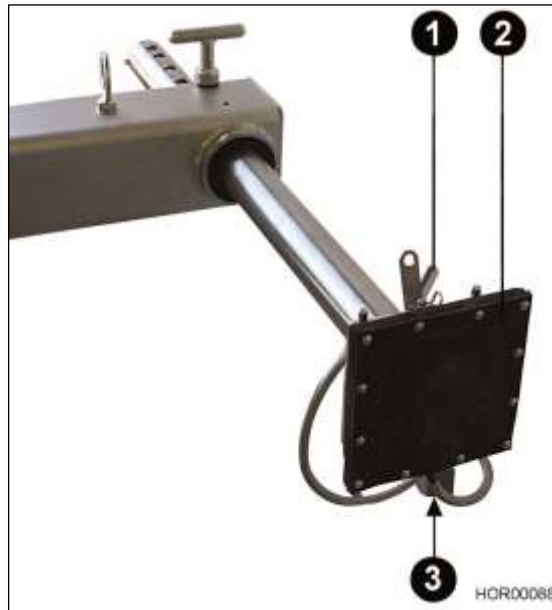

Bild 25 Replacing the heating plate holder
- Remove retaining spring (Bild 25/3).
- Remove the inner heating plate's (Bild 25/2) retaining bolts (Bild 25/1) and hold onto the heating plate at the same time. Then hang the heating plate onto the bracket on the frame section.